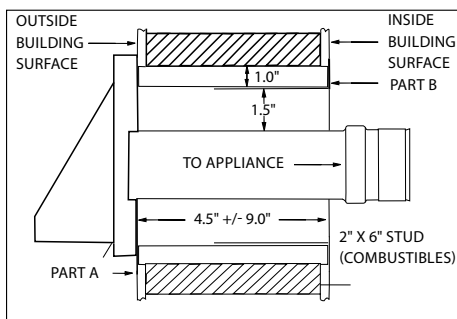

Figure 18
2. Determine the location and cut an opening for the wall thimble (refer to **Figure 18**).